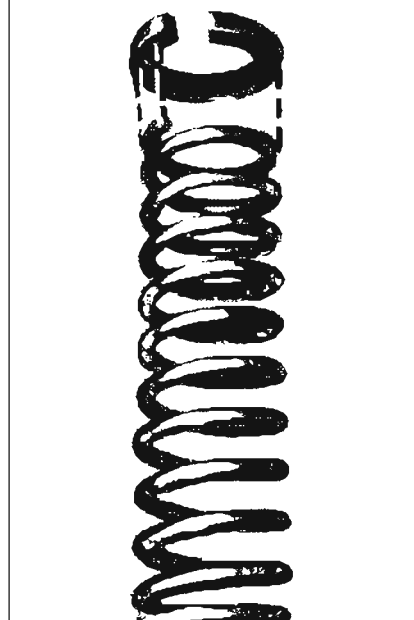

Figure 7-25—Instolling Shim
3. Place shim at top of spring as shown in Figure 7-25.